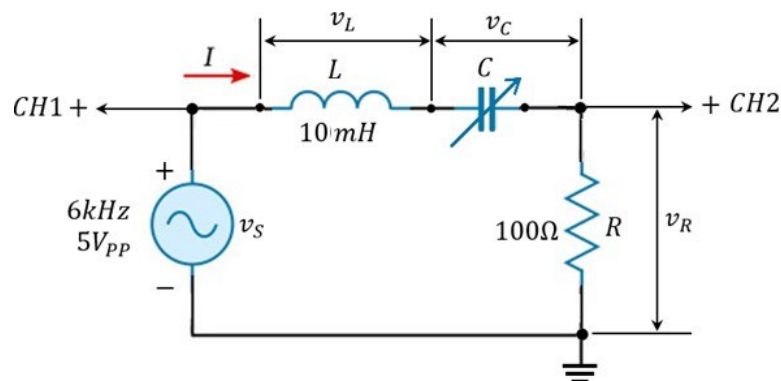

Figure 1
1. Complete the  $RLC$  circuit by setting  $100\Omega$  resistance,  $10\text{mH}$  inductance and  $30\text{nF}$  capacitance as shown in Figure 1.